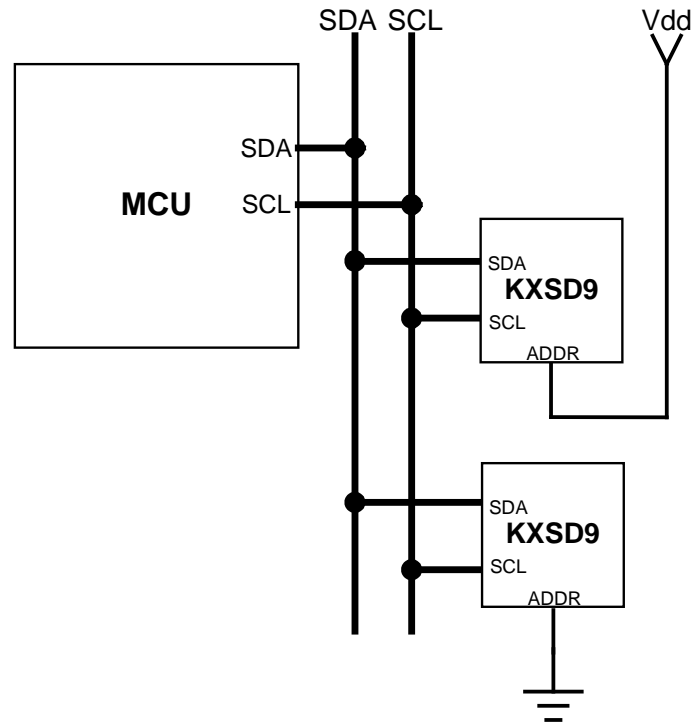

Figure 1 Multiple KXSD9 I²C Connection
The KXSD9 has the ability to communicate on an I²C bus. I²C is primarily used for synchronous serial communication between a Master device and one or more Slave devices. The Master, typically a micro controller, provides the serial clock signal and addresses Slave devices on the bus. The KXSD9 always operates as a Slave device during standard Master-Slave I²C operation as shown in Figure 1 on the following page.
Transactions on the I²C bus begin after the Master transmits a start condition (S), which is defined as a high-to-low transition on the data line while the SCL line is held high. The bus is considered busy after this condition. The next byte of data transmitted after the start condition contains the Slave Address (SAD) in the seven MSBs (Most Significant Bits), and the LSB (Least Significant Bit) tells whether the Master will be receiving data '1' from the Slave or transmitting data '0' to the Slave. When a Slave Address is sent, each device on the bus compares the seven MSBs with its internally-stored address. If they match, the device considers itself addressed by the Master. The KXSD9's Slave Address is comprised of a programmable part and a fixed part, which allows for connection of multiple KXSD9's to the same I²C bus. The Slave Address associated with the KXSD9 is 001100X, where the programmable bit, X, is determined by the assignment of ADDR (pin 8) to GND or Vdd. Figure 1 above shows how two KXSD9's would be implemented on an I²C bus.